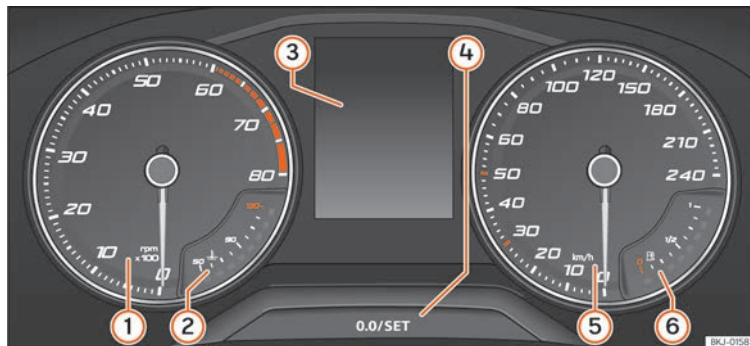

Fig.116 Instrument panel, on dash panel.
Details of the instruments » **Fig. 116:**
- Briefly press the button **0.0/SET** » **Fig. 116** to reset the trip recorder to 0.